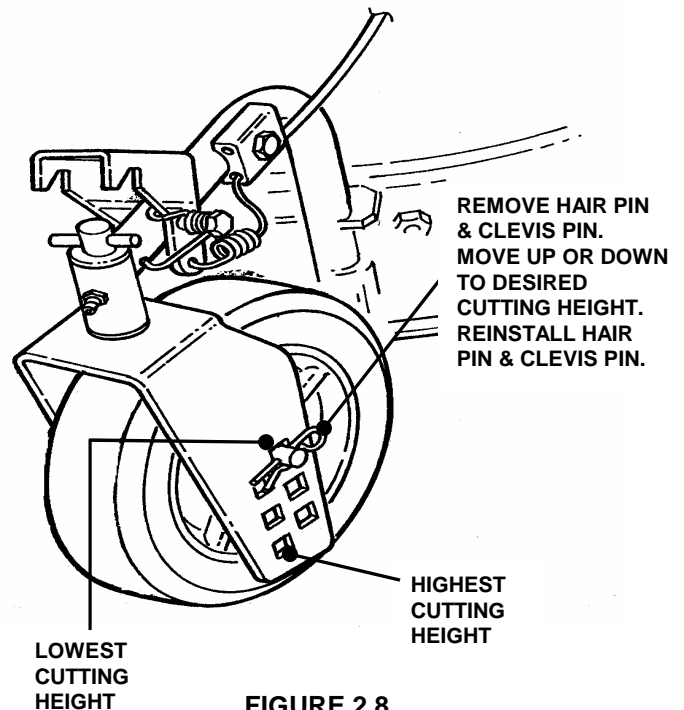

FIGURE 2.8
2. Remove hair pin and clevis pin. Install pin in highest hole for lowest cutting height and lowest hole for highest cutting height. See Figure 2.8.